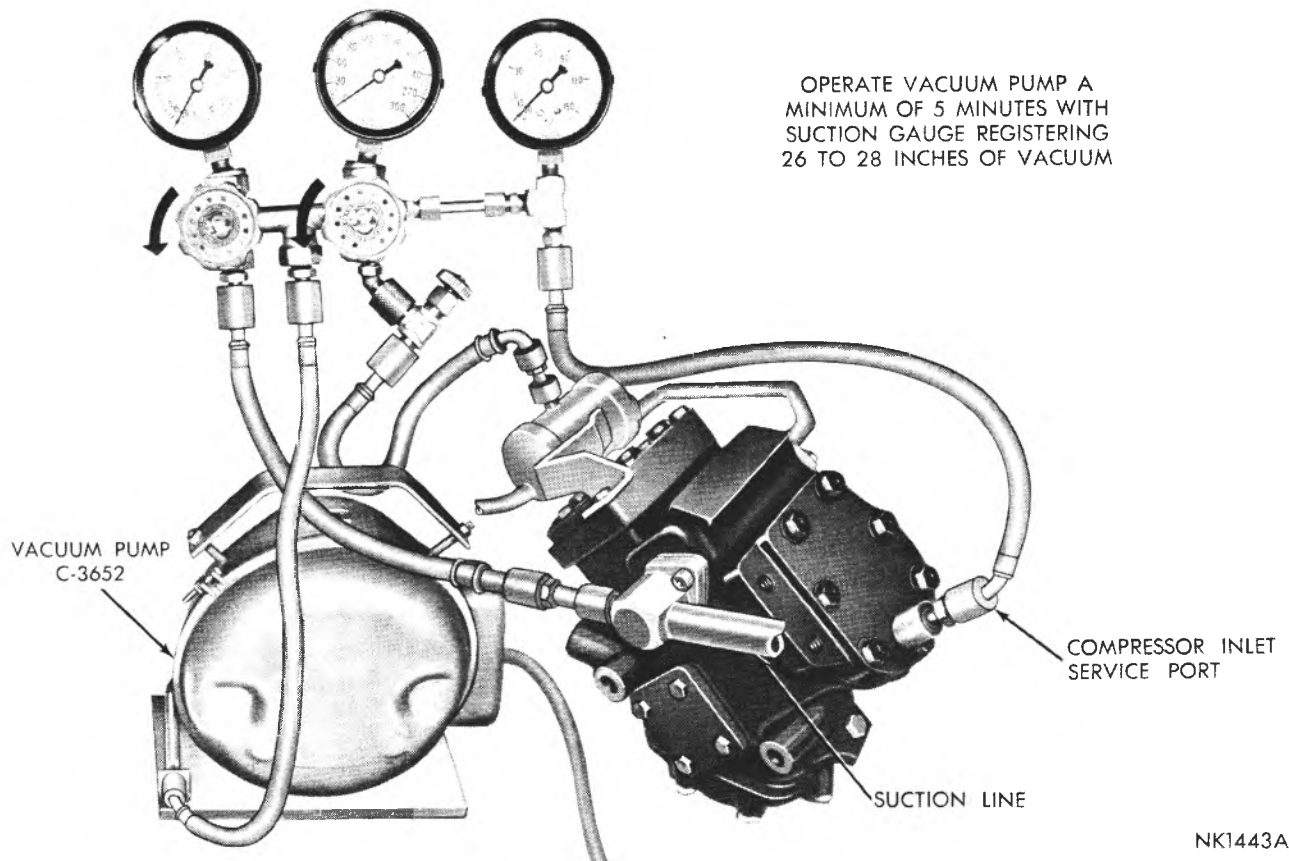

Fig. 50—Evacuating the System
(1) Connect gauge set manifold to compressor and long test hose from gauge set manifold center connection to vacuum pump, Tool C-3652, as shown in Figure 50.
(2) Open both gauge set manifold valves, and the needle valve.
(3) Start the vacuum pump and operate until the evaporator suction gauge registers at least 26 inches of vacuum. If system is tight and pump in good condition, vacuum will go as low as 28 inches.
(4) Allow vacuum pump to operate with the suction gauge registering 26 to 28 inches of vacuum for a minimum of five minutes.
(5) Close both gauge set manifold valves, turn off vacuum pump and remove test hose from vacuum pump. Leave gauge set manifold connected to compressor. Charge system with proper amount of Refrigerant 12. **Failure to pull at least 26 inches of vacuum indicates a leak in the refrigeration system**